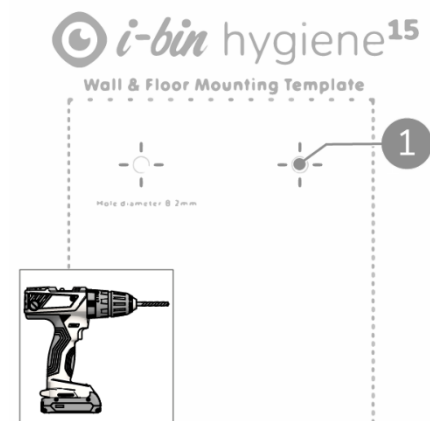

Figure 13
Mark the four holes (pos. 1, Figure 13) on the template with a hammer and a nail on the wall. Drill the holes with a drill bit Ø6 mm (1/4"). Depth 40 mm (1 3/8").